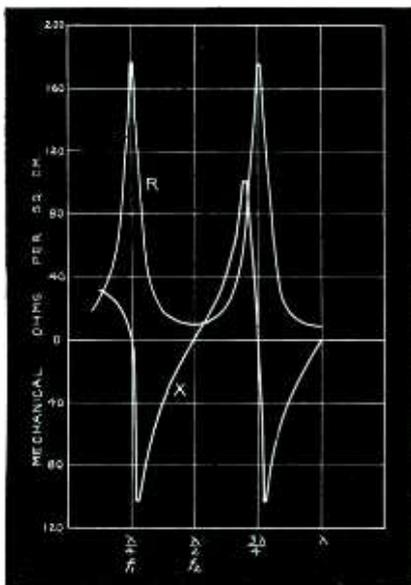

Fig. 1—Driving point impedance of a tube terminated in 10 ohms resistance
In Fig. 1 is shown a plot of Eq. (1), assuming  $Z_l$  to be a pure resistance of 10 mechanical ohms per sq. cm. The abscissa is the length of the tube in terms of wave length of sound. When the frequency is such ( $f_1$ ) that a given tube is one-quarter wave length long ( $l = \lambda/4$ ), it will be noted that the impedance on the piston is a comparatively high pure resistance. When the frequency is increased to a value ( $f_2$ ) corresponding to  $l = \lambda/2$ , the impedance becomes that of the open end, that is, the terminal impedance is transferred as if bodily to the driving point and the tube itself contributes no reactance. Furthermore, when the tube is an odd number of half wave lengths long, the phase of the air particle velocity at the open end becomes opposite to that at the driven end. At even numbers of half wave lengths no phase reversal occurs.3 These critical impedance conditions occur repeatedly as the frequency is raised.